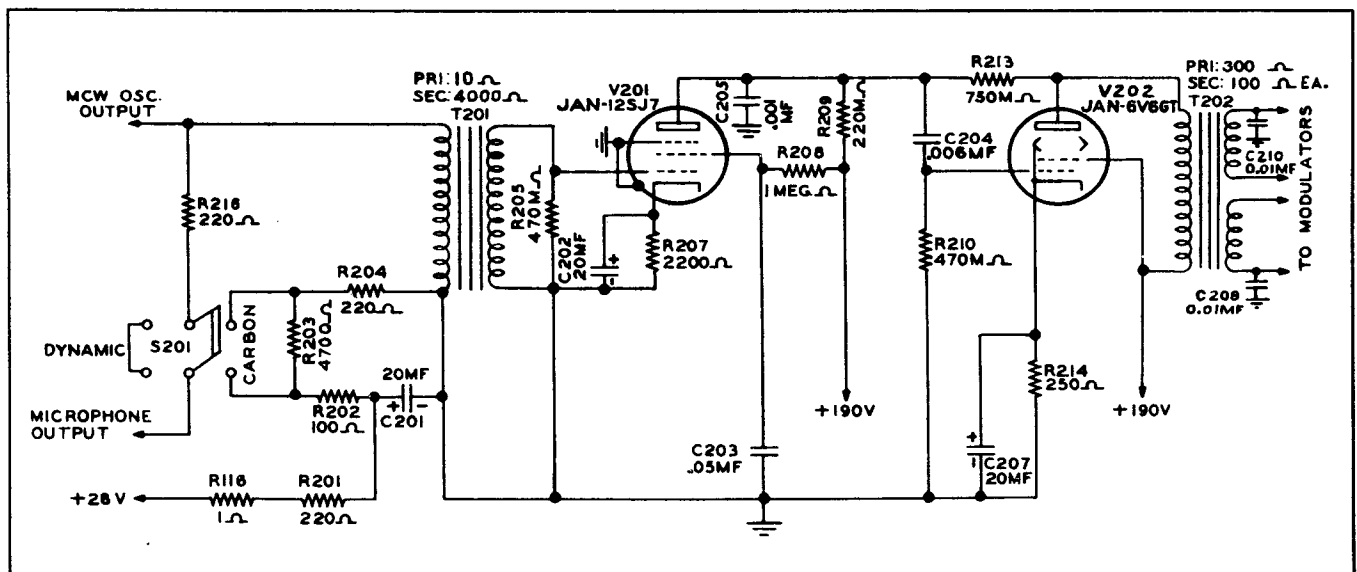

Figure 4-6. Speech Amplifier Circuits
e. AUDIO CIRCUITS.—The audio system consists of a two stage speech amplifier, push-pull modulators, a sidetone amplifier, and an "MCW" audio tone oscillator, See simplified circuit in figure 4-6.
(1) SPEECH AMPLIFIER.—Either of two types of microphones may be used with this equipment. The input to the speech amplifier has been designed so that by operating a switch, proper connections are made to the "MICROPHONE" jack J102, to match the output of either a carbon or dynamic type of microphone. The